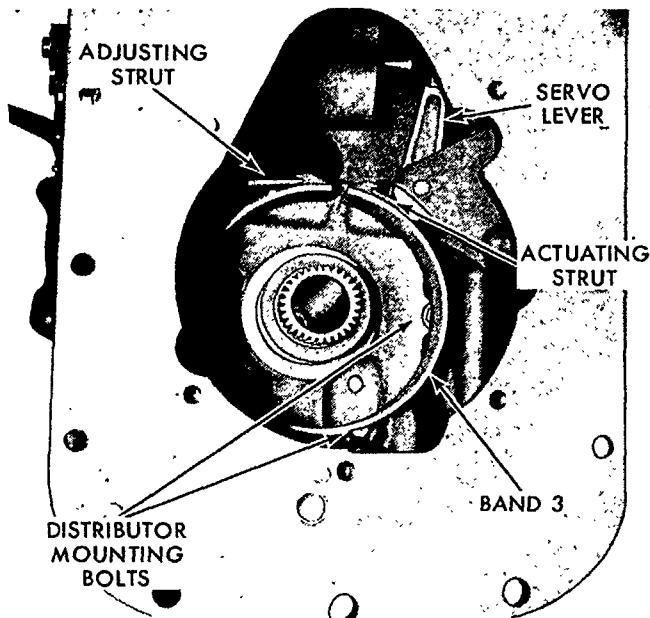

Figure 71
adjusting strut, actuating strut and the band. See Figure 71.
11. Loosen the four distributor mounting bolts shown in Figure 71, and remove the two servo tubes from the distributor (but not from the transmission case), by twisting and pulling at the same time as shown in the Insert, Figure, 72.
18. Install band 3 adjusting screw and secure band 3 in position with the depression in the band end toward the adjusting screw. Join the band to the screw with the adjusting strut and to the servo lever with the actuating strut. See Figure 71.